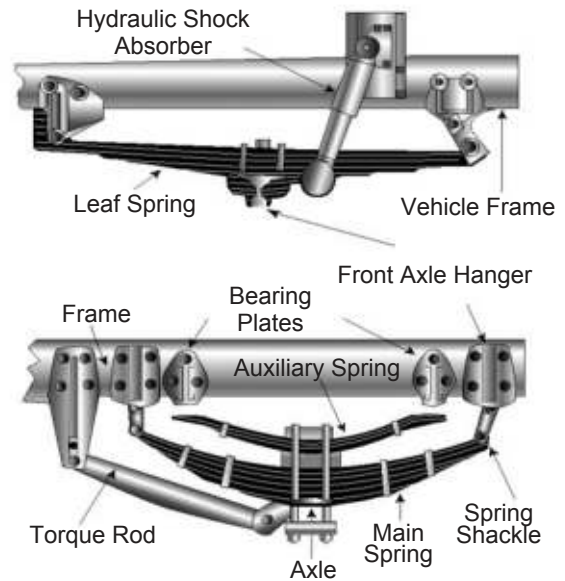

Figure 2.2
**Suspension System Defects.** The suspension system holds up the vehicle and its load. It keeps the axles in place. Therefore, broken suspension parts can be extremely dangerous. Look for: Spring hangers that allow movement of axle from proper position. See Figure 2.2.